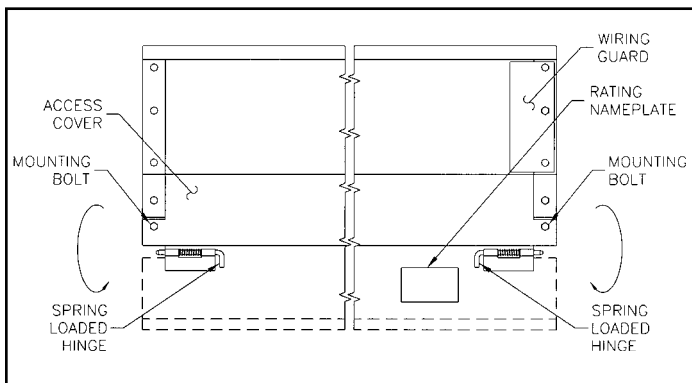

FIGURE 11 Access Cover Removal
- B. Check the rating nameplate on the top of the unit, or inside the bottom access cover, for supply voltage and current requirements. **See Figure 11.** A separate line voltage supply with a suitable branch circuit protection device should be run directly from the main electrical panel of the unit. A disconnect switch for each branch circuit is a required part of this installation.
- D. Access the wiring compartment, **See Figure 11,** by lowering the bottom **hinged access cover.** Remove the two ¼" bolts located on the intake side of the unit and the access cover will swing down to rest in the vertical position exposing the wiring compartment. If desired, the access cover may be removed by grasping both sides of the access cover and pressing in on the spring loaded hinges. **See Figure 11.**
- L. Reinstall the hinged access cover by positioning one hinge into the corresponding catch located on the unit. Raise the other hinge to the unit, when the catch is located press in the hinge and release it into the catch. Swing the access cover into place and align the mounting holes with the threaded inserts on the unit. Reinstall the two ¼" bolts. **See Figure 11.**
3. Remove the bottom two 1/4" mounting bolts on the intake side of the unit. Swing the access cover to rest in the vertical position. Grasp both sides of the access cover and press in on the spring loaded hinge. This will release the access cover from the unit and expose the blower mounting plate. **See Figure 11.**